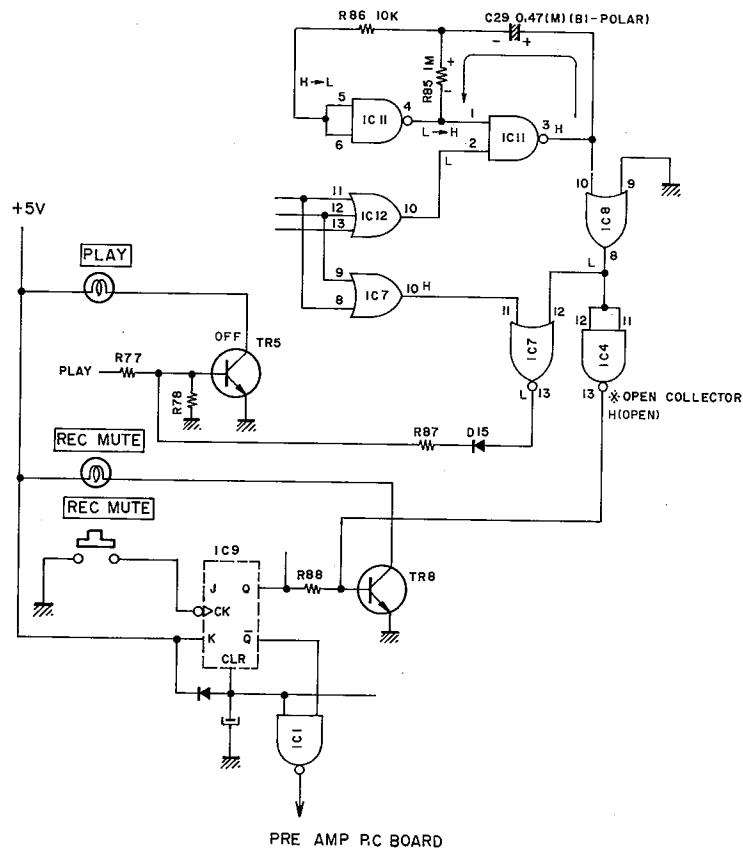

Fig. 7 Oscillation stopped
- 2) In mode other than those stated above, as shown in Fig. 7, IC12-⑩ is Low Level, so IC11-③ is High Level. Then, charging current flows through R85 to C29. At this time, due to R85's voltage drop IC11-⑤, ⑥ become High Level and IC11-④ becomes Low Level. However, when C29 finishes charging, R85's voltage drop disappears and IC11-⑤, ⑥ become Low Level and IC11-④ High Level. It then stabilizes.